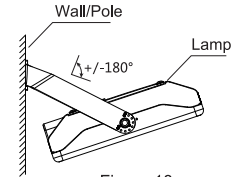

Figure 18
Step 3: Fix the fixture to the bracket and tighten the screws; connect the wires properly and put them into junction box (Figure 18).
Notice: Adjustable angle is 0~+/-180°(Figure 18)